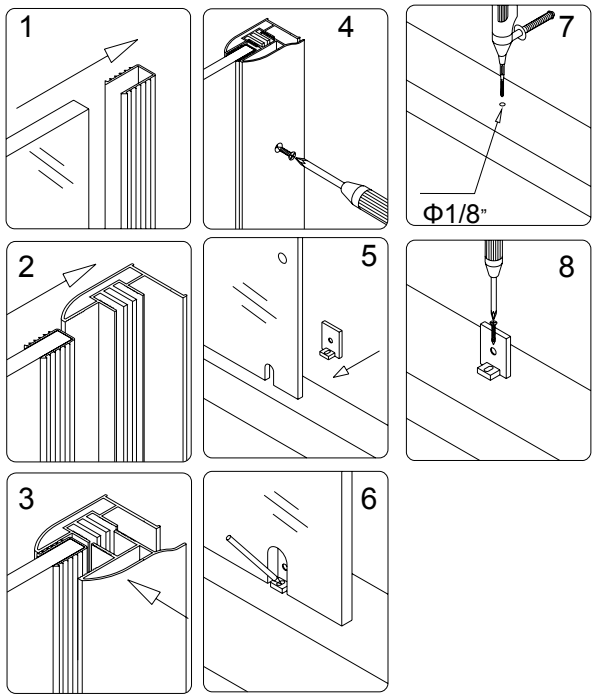

Fig 2
2. a) Locate the **Stationary glass panel (02)** from the package and push the **U-shape seal gasket (13)** onto the vertical edge of the stationary glass. Set the glass panel onto the threshold, tray or bathtub, push it into the groove of the profile and then snug it down with internal **Glass Profile (01)** with **Flathead screw ST4.2x15 (09)**. See Fig.2 (Images 1-4) for details.
b) Take apart the **Bottom bracket (14)**, place the mounting part into the U shape hole of the **Stationary glass panel** from inside and mark the drill hole on the threshold, tray or bathtub. Remove the glass, drill the hole and secure one part of the **Bottom bracket (14)** with **Round head screw ST4.2x30(10)**. See Fig.2 (Images 5-8) for details.